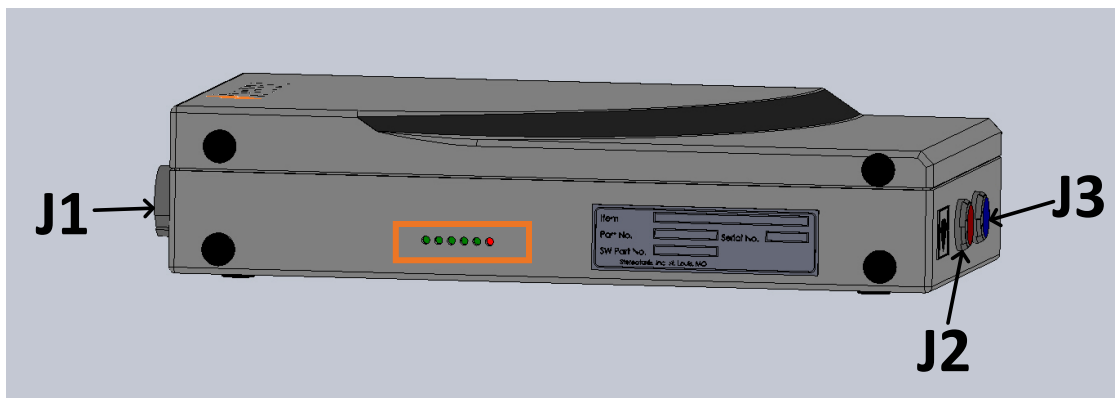
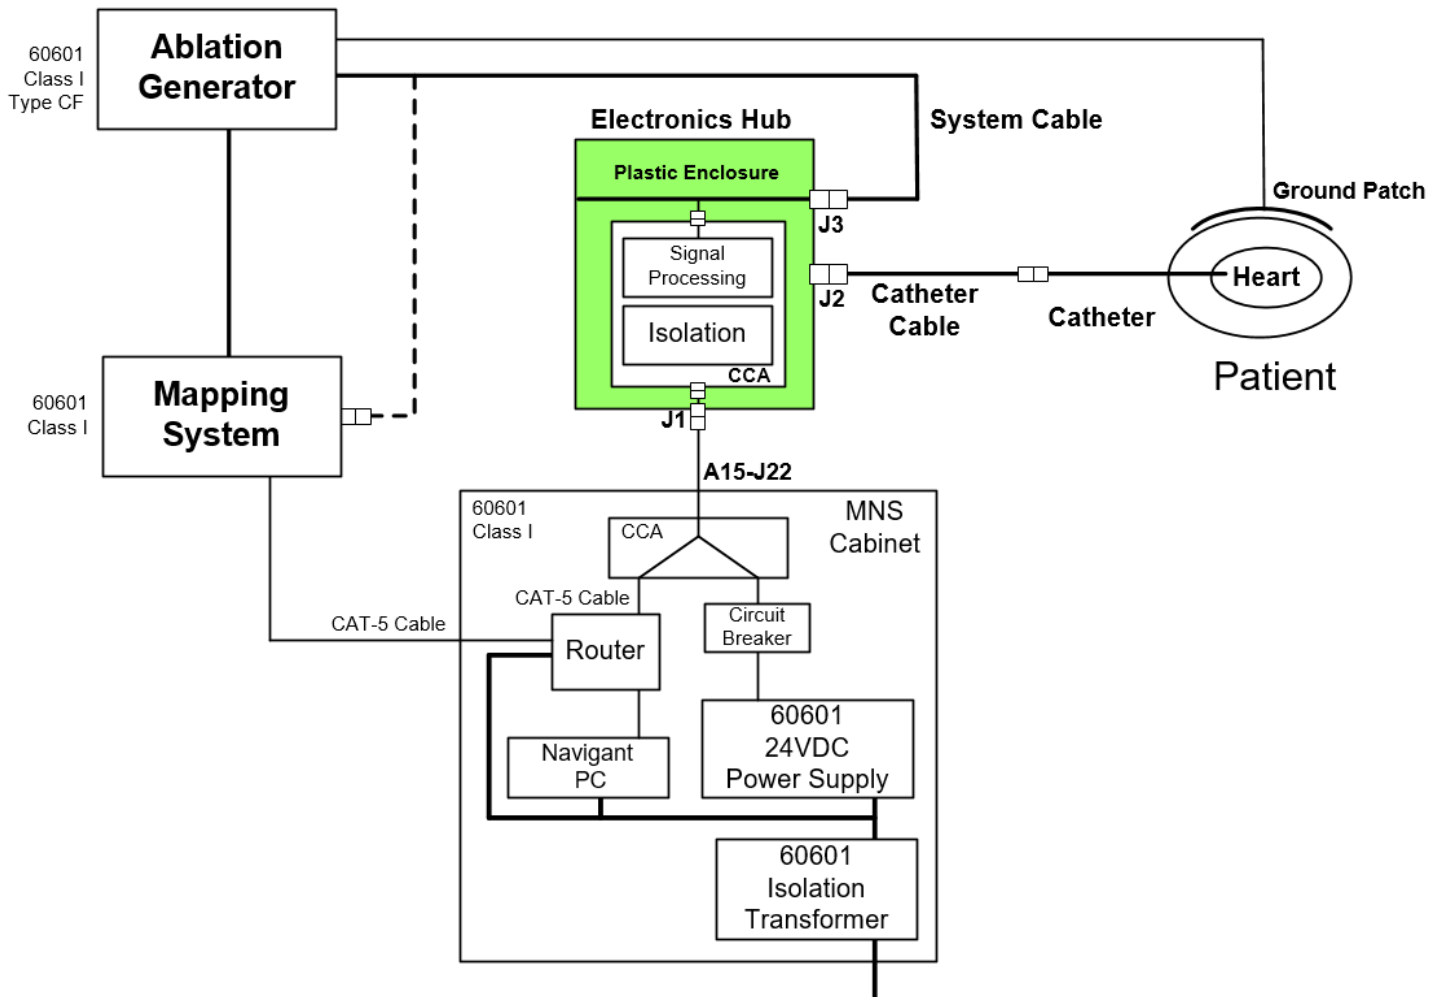

Figure 3. iCONNECT Electronics Hub with connector and LED location identifiers
Figure 4. iCONNECT System hardware connectivity
Below are instructions for connecting the iCONNECT Electronics Hub (Figure 3) to the catheter, mapping system, and/or ablation generator. Refer to **Figure 3** and **Figure 4** while following the steps.
**Note:** For emphasis, the location of the LEDs is outlined in an orange rectangle in Figure 3.
After completing all connections (Figure 4), the external LEDs (Figure 5) on the iCONNECT Electronics Hub box should light as indicated in **Table 3**.